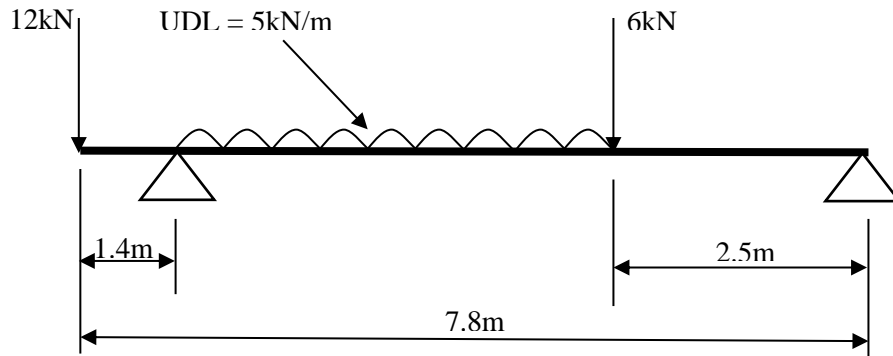

Fig Q7
- (a) the power delivered to the rudder stock; (10)
- (b) the bending moment on the tiller arm at a point 800 mm from the centre of the rudder stock. (6)
7. A hollow square section beam of external dimension 100 mm and thickness 5 mm is loaded as shown in Fig Q7.